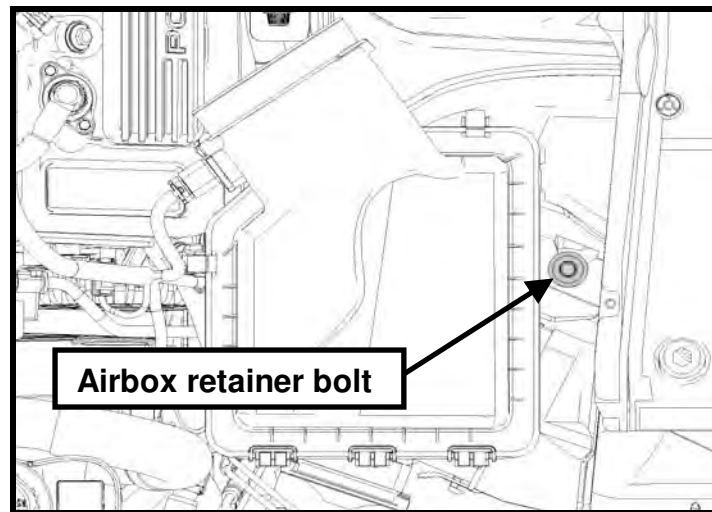

Fig. 2
STEP 4: Remove the airbox retainer bolt and airbox from vehicle (See Fig. 2).